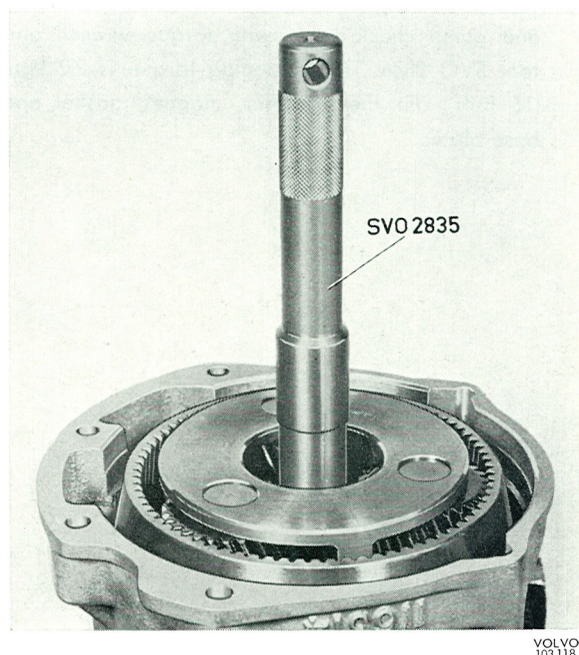

Fig. 4-66. Fitting the planet gear
8. Place the planet carrier complete with planet gear in position on the output shaft. Guide up the splines into the planet carrier and uni-directional clutch with drift SVO 2835, Fig. 4-66.